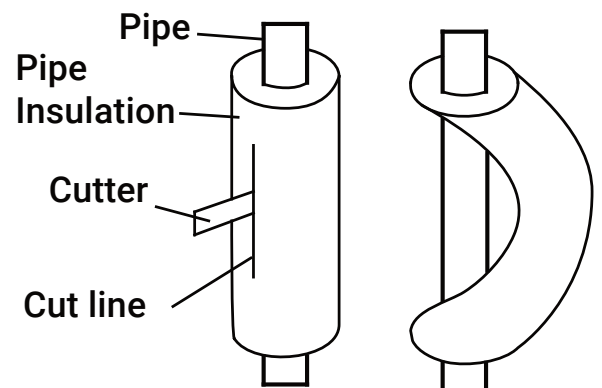

Fig. 2.16
3. As shown in Fig. 2.16, use a sharp cutter to cut the pipe insulation and bend the pipe after it is exposed. After bending the pipe to the desired angle, place the insulation back on the pipe and secure it with adhesive tape.